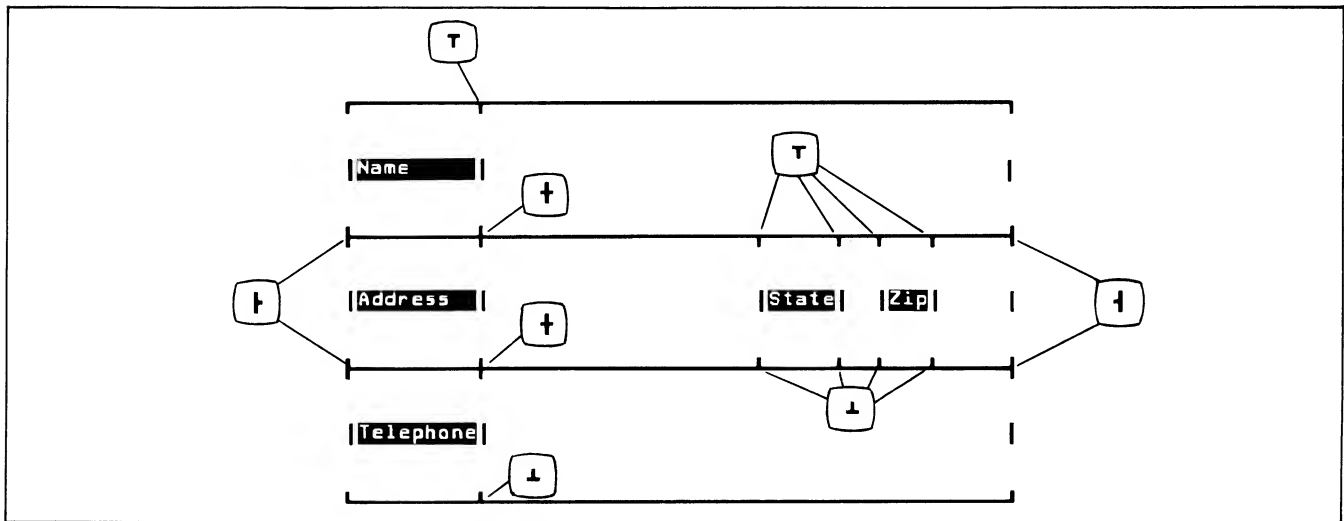

Figure A-6. Building a Form — Phase 2
- 2. Move the cursor to each line intersection, and press the appropriate soft key. Figure A-6 shows the soft key used at each line intersection in the sample form.